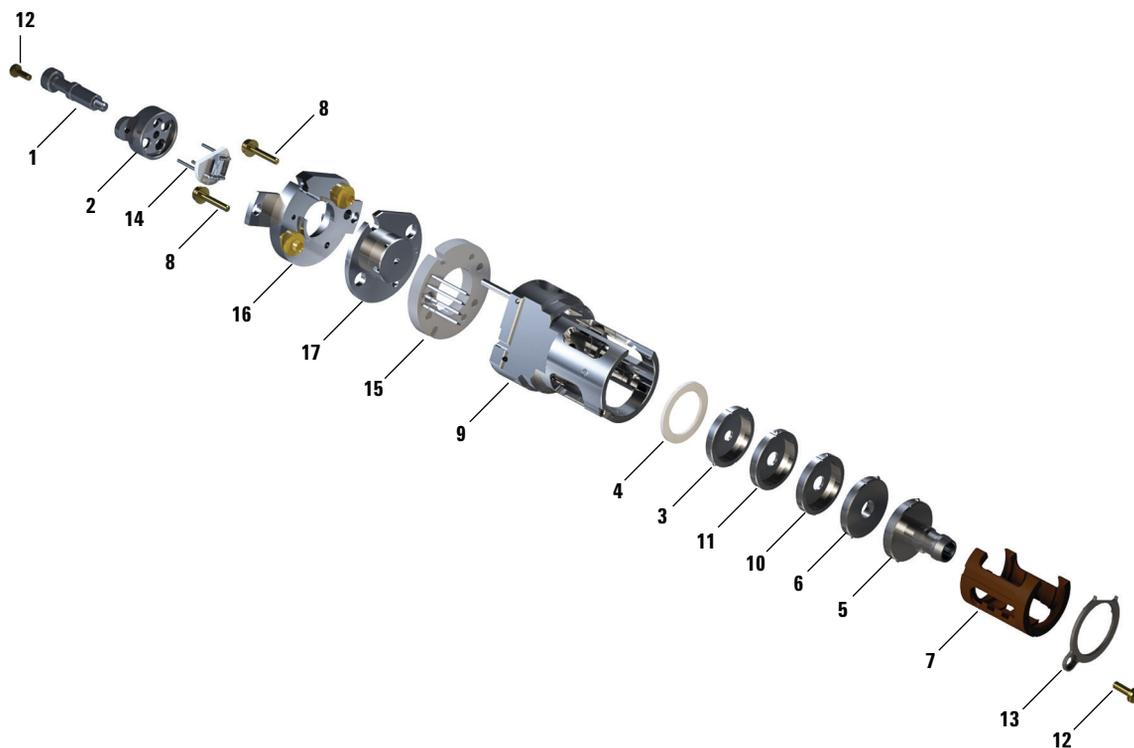

Figure 41. Assembling the EI HES
Refer to the exploded parts view **Figure 41** and the EI HES parts list **Table 17** on page 133 while using this procedure.
- 3 Insert the lens stack encased in the insulator into the source body. (See **Figure 41** on page 133.) The engraved numbers face the full opening extending to the end of the source body. Verify that the ceramic is sitting flush at the end of the source body.
Table 17 Parts list for EI HES (Figure 41)
Table 17 Parts list for EI HES (Figure 41) (continued)